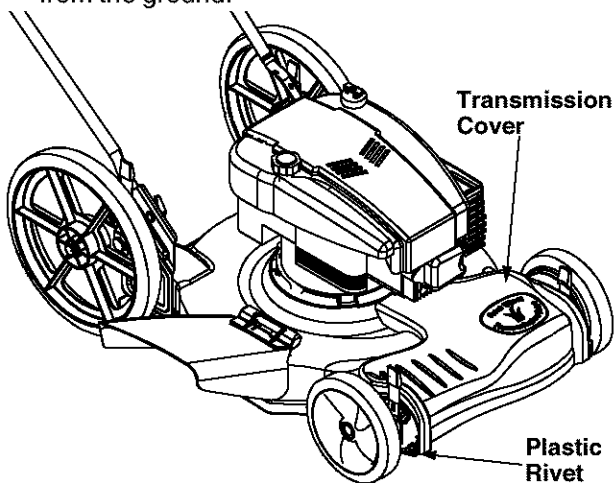

Figure 12
- Remove the transmission cover by sliding off the two plastic rivets with a screwdriver on each side of cover. See Figure 12.
- Using a torque wrench, loosen the screw holding the belt tension spring to the transmission. See Figure 12.